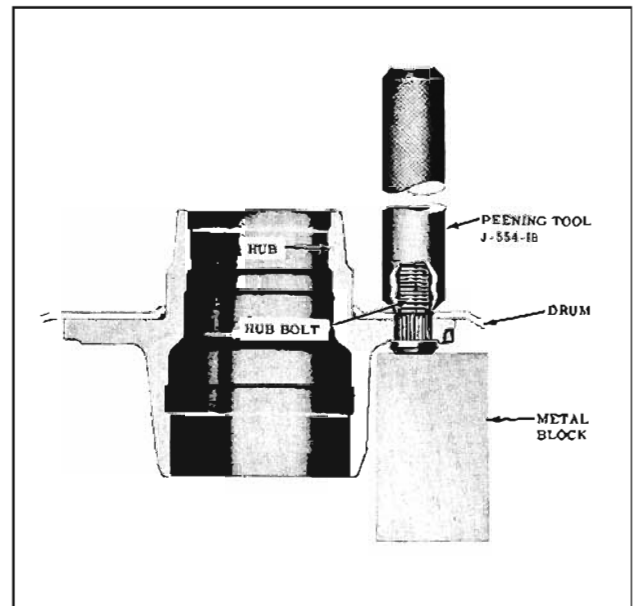

Fig. 9-108 Peening Hub Bolt
4. While supporting hub bolt,peen hub bolt into countersunk area of drum with the use of Peening Tool J-554-18 until the drum is secure to the hub. (Fig. 9-108)